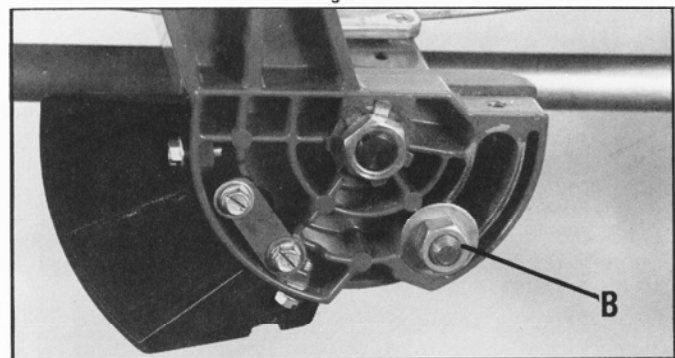

Fig. 36
If the track arm does not lock when the bevel clamp handle is in the down position, an adjustment can be made by tightening the nut (B) Fig. 36, at the rear of the track arm.